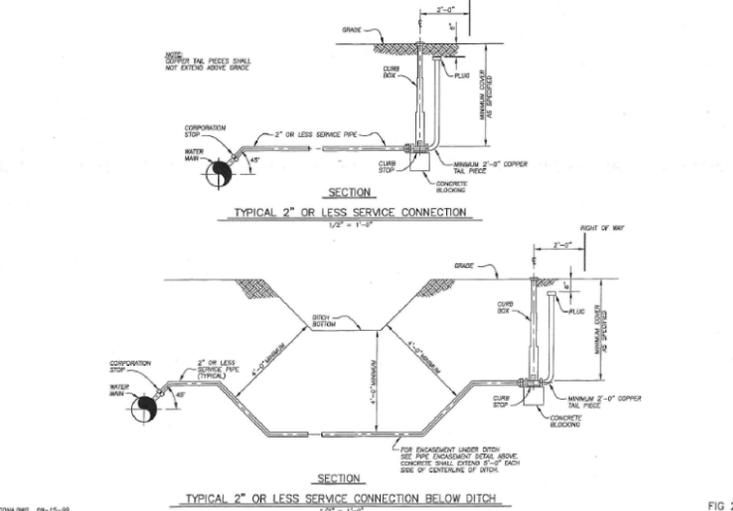
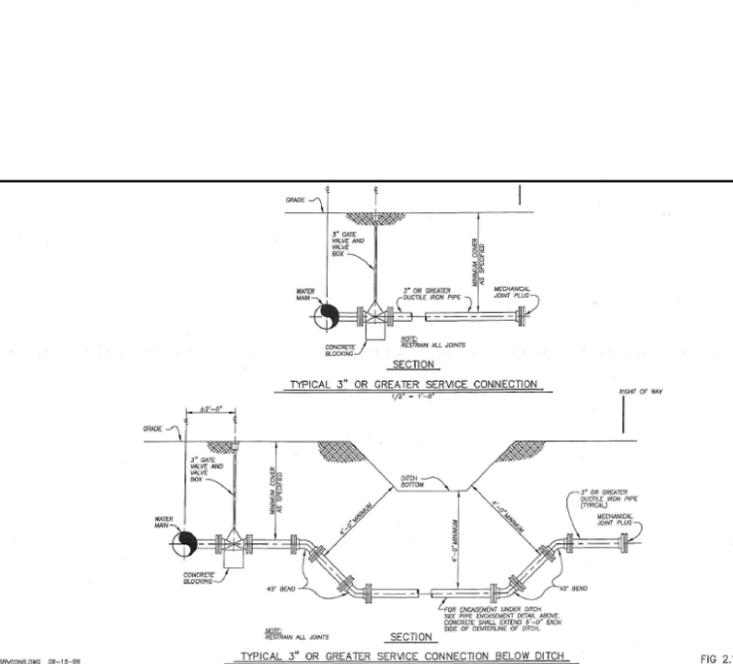

FIG 2.18.1
FIG 2.18.2
A. SERVICE CONNECTIONS - SERVICE CONNECTIONS SHALL BE 1 INCH FOR RESIDENTIAL SERVICES UP TO THE ROAD RIGHT-OF-WAY (SEE FIGURE 2.18.1) AND FROM THE RIGHT-OF-WAY TO THE METER SETTING. LOCATIONS OF SERVICE CONNECTIONS, WHEN SHOWN ON THE DRAWINGS, ARE APPROXIMATE ONLY. FINAL LOCATIONS WILL BE ESTABLISHED AT THE TIME OF CONSTRUCTION BY THE CITY OR A REPRESENTATIVE OF THE OWNER OF THE PROPERTY BEING SERVED. SERVICE CONNECTIONS SHALL BE INSTALLED PRIOR TO THE NEW MAINS BEING TESTED AND DISINFECTED AND PLACED IN SERVICE. FOR SERVICE CONNECTIONS GREATER THAN 2-INCH DIAMETER, SEE FIGURE 2.18.2.
**SEE FIGURE 2.18.1 & FIGURE 2.18.2.**
SERVICE PIPE SHALL BE OF TYPE K COPPER TUBE MEETING THE REQUIREMENTS OF ASTM B88, AND SHALL BE SOFT TEMPERED WHEN INSTALLED IN OPEN TRENCHES AND HARD TEMPERED WHEN INSTALLED BY PUSHING. FLARE TYPE UNIONS SHALL BE USED WITH THE COPPER TUBE. EACH SERVICE CONNECTION TWO INCH DIAMETER AND SMALLER SHALL BE PROVIDED WITH A TAIL PIECE OF COPPER AS SHOWN IN FIGURE 2.18.1.